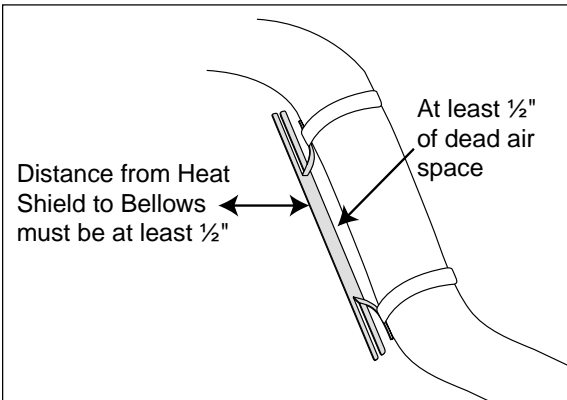

Figure 14
2. Attach the heat shield (Q) to the exhaust pipe using the clamps (R) (Figure 14). Bend the heat shield for maximum clearance to the air spring.
3. On the driver side, it will be necessary to secure the emergency brake cable away from the air spring to prevent it from rubbing. Use the provided tie straps (BB).